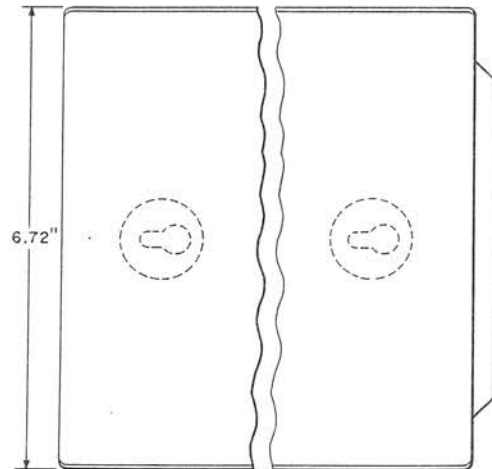

Fig. 3
**66C2-32:** Same as 66C2-16 except contains two 66C1-16 Connecting Blocks. See Fig. 3.